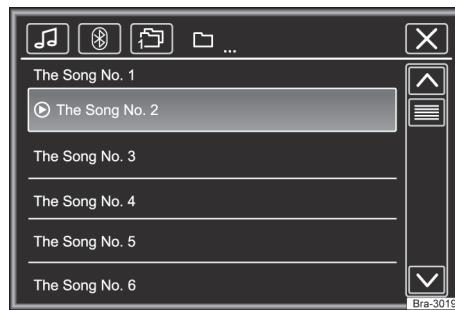
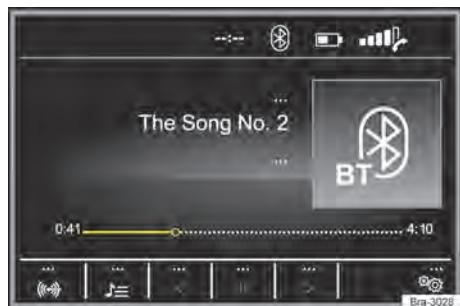

Fig. 126 Radio operation: station list.
Fig. 125 Media main menu.
- Press the **[MEDIA]** button to open the **MEDIA** main menu → **Fig. 125**.
Currently played media source is shown in the lower left function button pad → **Fig. 125**.
Caption for → Fig. 125 and → Fig. 126: